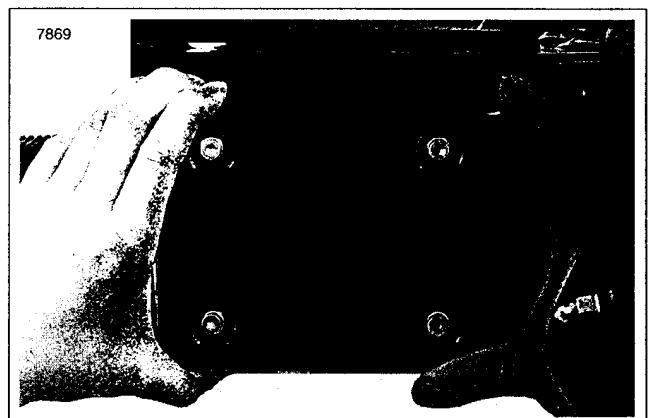

Figure 8-10. Removing/Installing Side Cover
6. See Figure 8-10. Grasp both sides of cover and push firmly into top plate. Verify side cover is firmly attached to top plate.